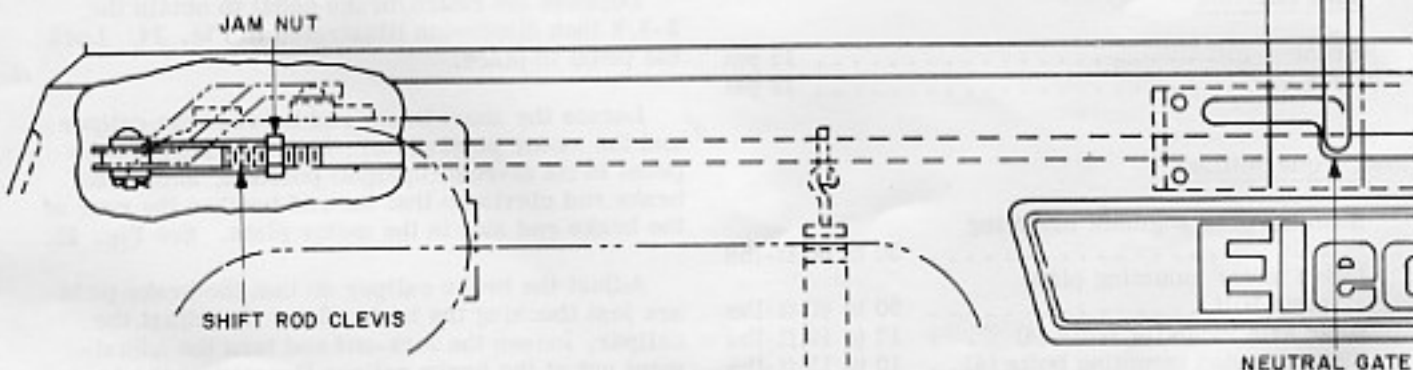

Fig. 26.
2. Shift Rod Adjustment - With the transmission in neutral, adjust the shift rod clevis so that the shift rod is in the center of the vertical slot of the shift gate, and lock the jam nut. See Fig. 26.